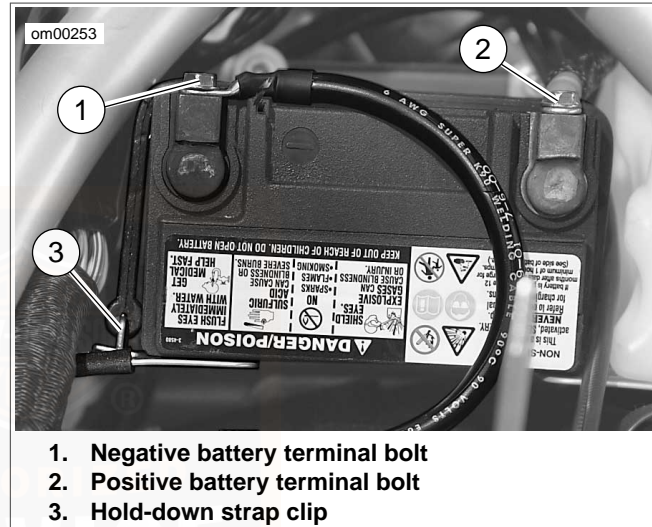

Figure 57. Battery (12 amp-hour): VRSC Models
5. See Figure 57. Remove the battery negative cable from the negative (-) terminal of the battery.